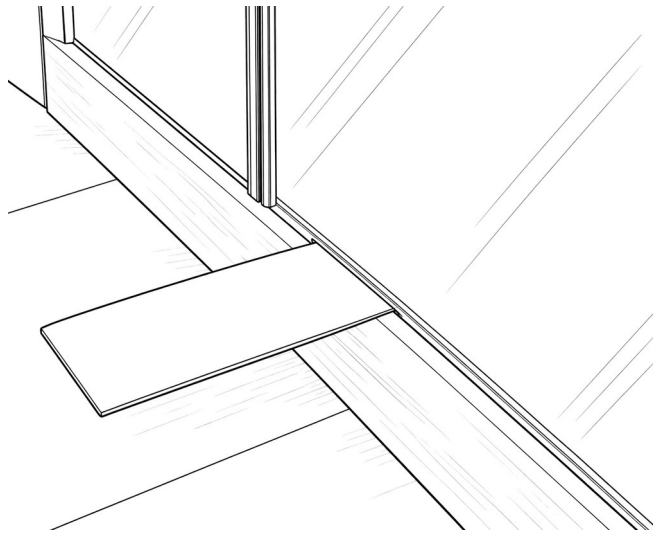

Figure 25. The cardboard spacer under the closed door holds it at least 4 mm (5/32 in) above the floor while the hinges are tightened.
- Close the door and slide the piece of stiff cardboard under its bottom edge (**Figure 25**). The cardboard holds the door at least 4 mm (5/32 in) above the floor so it will not rub or press on the floor.